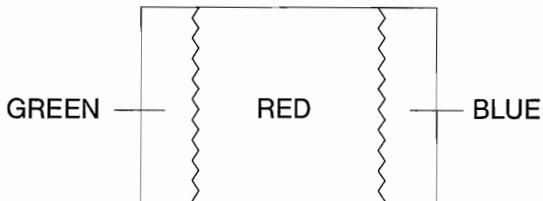

Fig. 4
6. Loosen the Ring Lock and adjust the Purity Magnets so that a red field is obtained at the center of the screen. Tighten Ring Lock. (See Fig. 4,5)